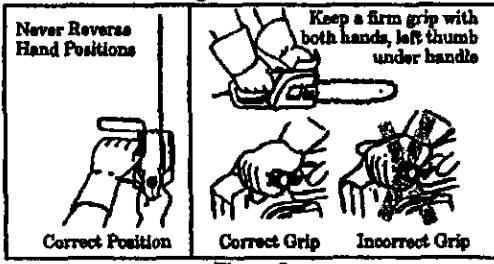

Figure 3
1. Keep a good, firm grip on the saw with both hands when the motor is running and don't let go. Figure 3. A firm grip can neutralize kick-back and help you maintain control of the saw. Keep the fingers of your left hand encircling and your left thumb under the front handlebar. Keep your right hand completely around the rear handle whether you are right handed or left handed. Keep your left arm straight with the elbow locked.
2. Position your left hand on the front handlebar so it is in a straight line with your right hand on the rear handle when making bucking cuts. Figure 3. Never reverse right and left hand positions for any type of cutting.
4. Stand slightly to the left side of the saw to keep your body from being in a direct line with the cutting chain. Figure 3.